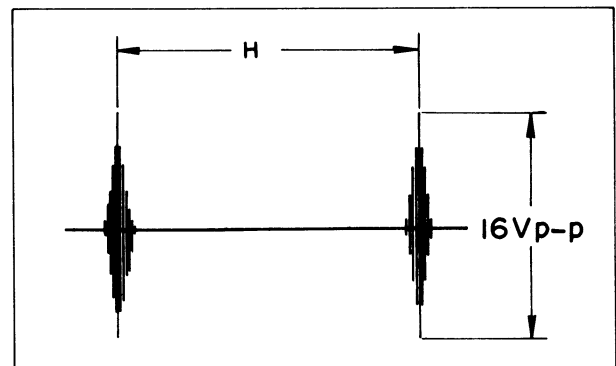

Fig. 5-31. DET Burst waveform
2. Adjust T1 (Det. Burst) at that time so that the output level becomes maximum (approx. 16Vp-p). Refer to Fig. 5-31.